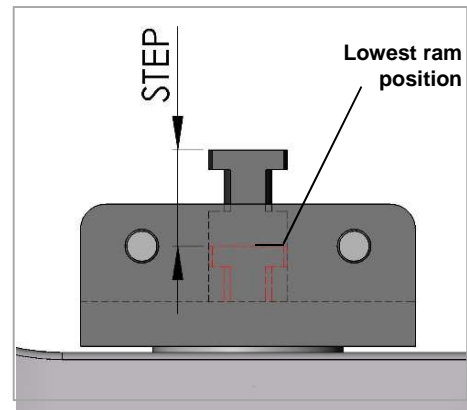

Fig. 7.6
- + Keep the foot pedal and simultaneously one of the safety buttons on the right or left side pressed until the full cycle is finished. The ram is now in the lowest position (Fig. 7.6).